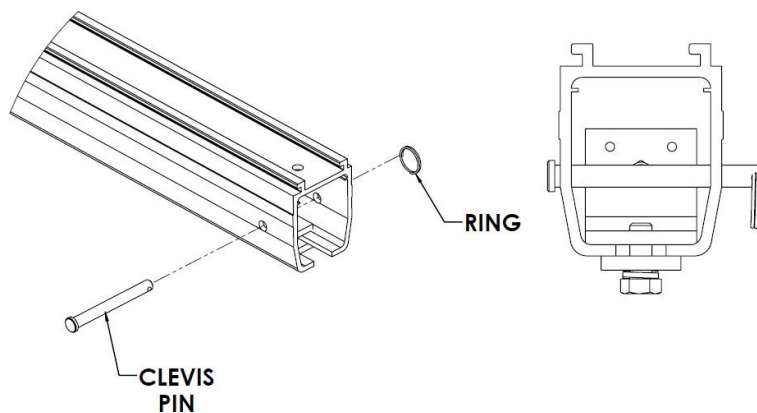

Figure 68: **Clevis Pin and Ring Installed**
- Make sure that the endstop clevis pins and rings are installed behind all endstops (Figure 68).